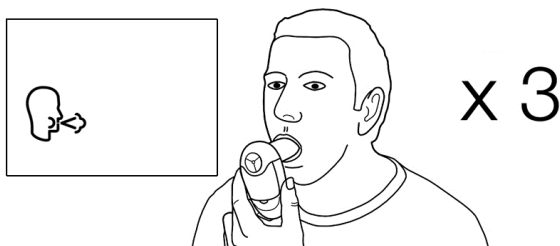

Figure 3 - Holding the Device During Test
5. Instruct subject to hold their head high and hold the Vitalograph COPD-6 ready in front of the mouth, see Figure 3.